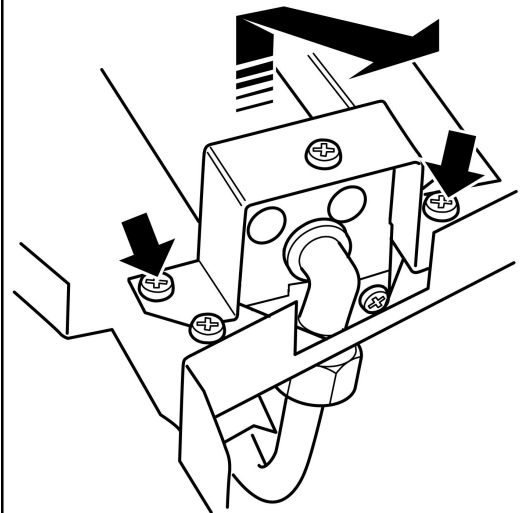

Figure 49. Removal of burner
(See figure 49).
3. Remove the two screws from the burner clamping plate (See figure 49)